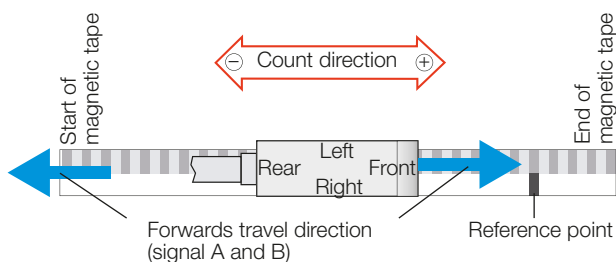

Fig. 4-1: BML sensor head approaching lengthwise
- For tapes with a reference track, identify the rear (start of the measuring range) and front end (end of the measuring range) so that the tape can be installed appropriately to the sensor head. The first reference point is visually marked (see Fig. 4-1).
3. On a magnetic tape with reference point, identify the front and rear end: The first reference point is marked and is on the right side of the magnetic tape in its own track (see Fig. 4-1). This can also be identified using a pole pitch card.